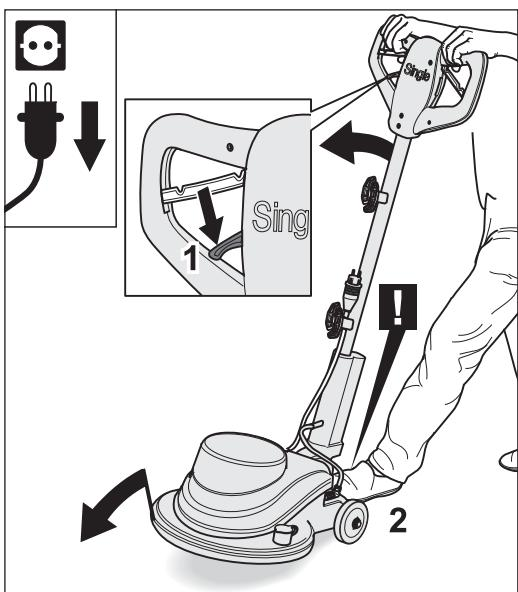

Fig. 6 Tilt the machine back up, holding it steady with your foot to stop it rolling away.
- 7 Carefully tilt the machine back up over the wheels and onto the sanding plate. As you do so, steady the machine with your foot to stop it rolling away (Fig. 6).